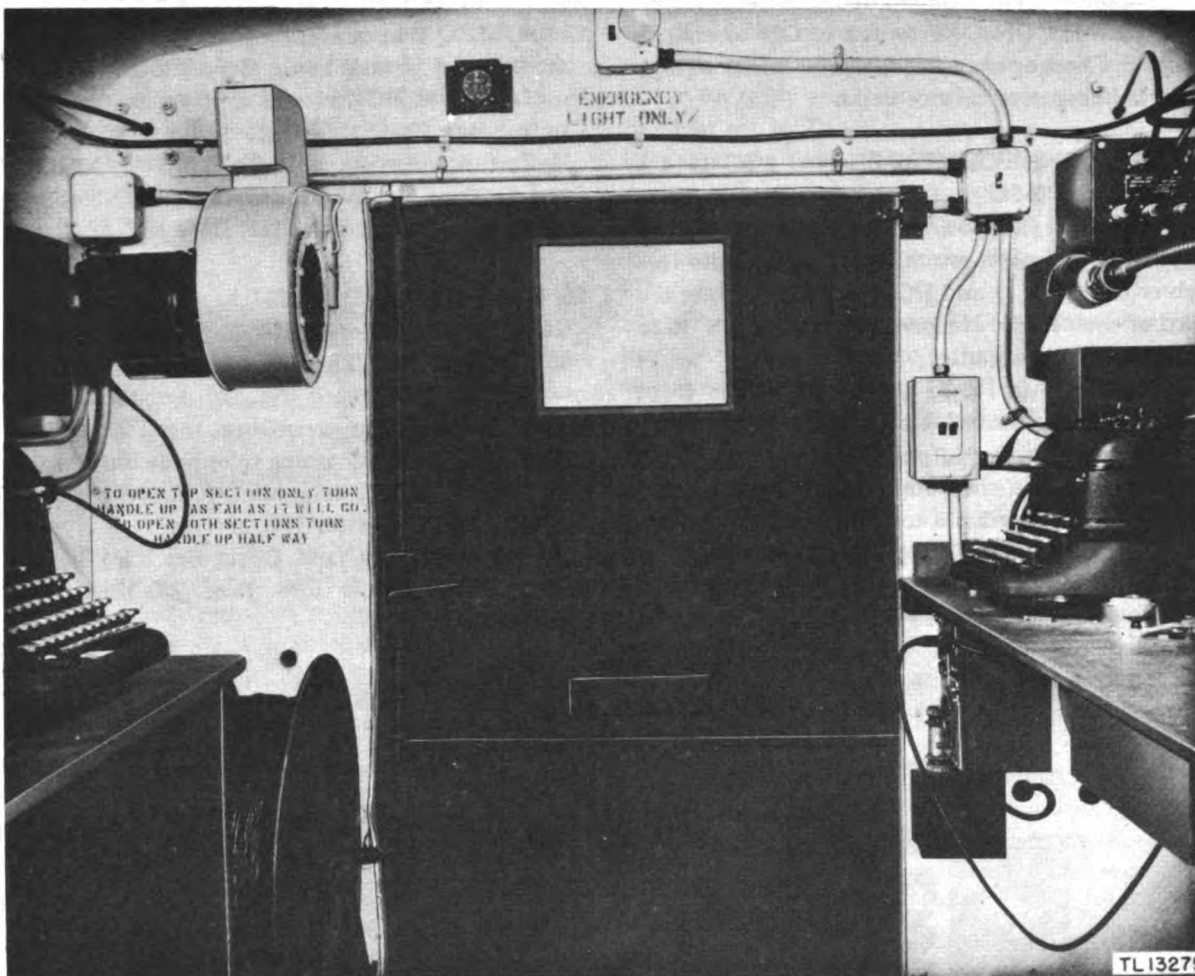

Figure 12. Interior Shelter HO-17(), rear view.
b. Connect the input terminal of the antenna coupling to Antenna Mast Base MP-48, at the left rear of Shelter HO-17-() (fig. 12) by means of Cord CG-67/MRQ-2 (2 ft 6 in.).